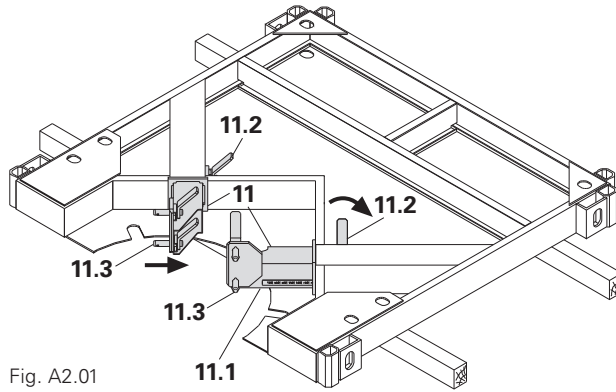

Fig. A2.01
1. Set the Telescopic Beam (11) with help of the integrated markings (11.1) to the required diameter (11.2).
2. Slide back the captive Bolts (11.3) as far as possible. (Fig. A2.01)